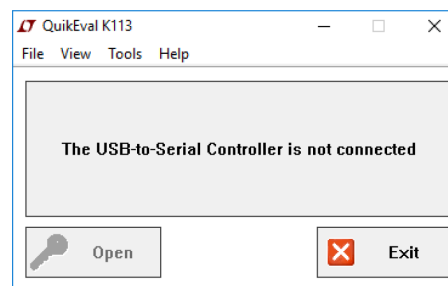
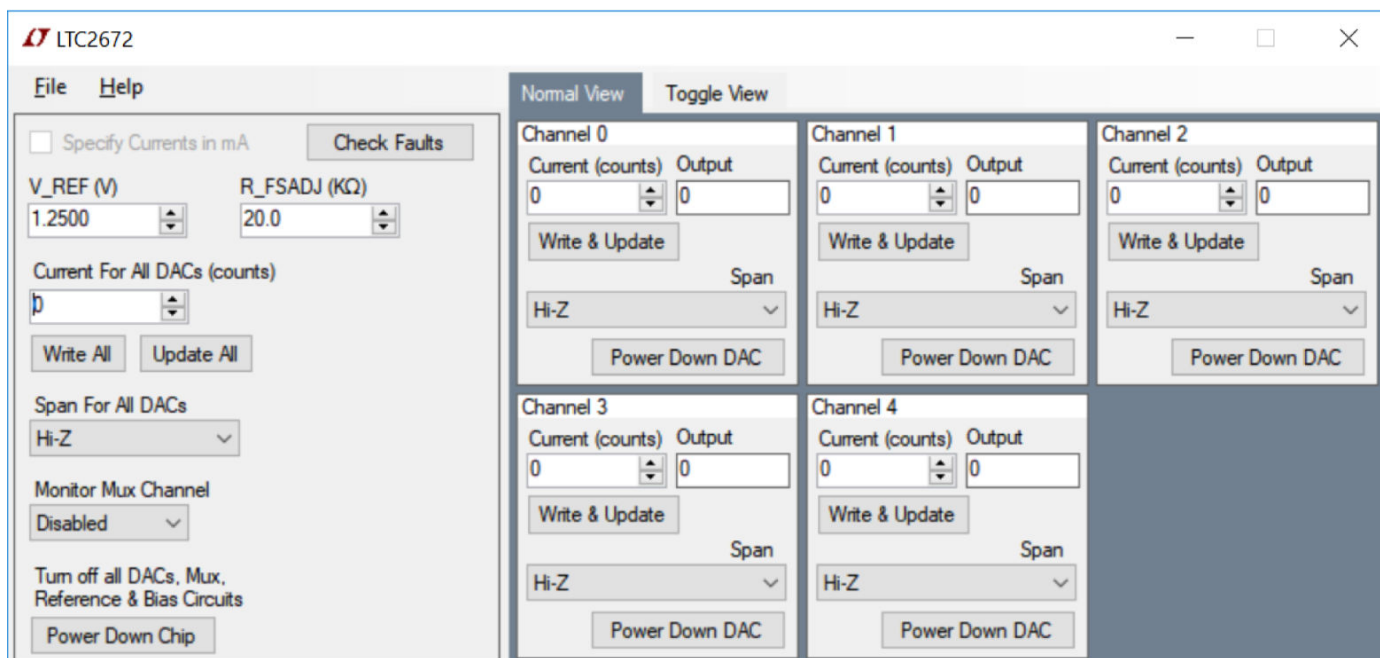

Figure 4. Select Interface Window
Figure 5. QuikEval Evaluation Software Main Window
To start the QuikEval evaluation software, from the **Start** menu, click **Analog Devices > QuikEval**. The software window opens (see Figure 4) until the software recognizes the DC2903A. When the software recognizes the DC2903A, the main software window in Figure 5 opens.
In the main QuikEval evaluation software window (see Figure 5), each channel can be written to individually or all channels can be written to at once as a group. Various settings for the LTC2672 are available in this window, including the range, reference voltage, toggle options, and full-scale adjustment resistor (R_FSADJ) settings. The fault register is read and displayed after every data transfer.
The DC2903A uses the LTC2672 internal 20 kΩ resistor to set the full-scale range. If a different resistor is manually populated on R4 of the DC2903A, the resistor value can be changed in the R_FSADJ (KΩ) text box (see Figure 5).
Similarly, if a different external reference voltage is used, the resistor value can be changed in the V_REF (V) text box (see Figure 5).
To set the output range for all LTC2672 channels at once, use the Span For All DACs dropdown menu. To set the output range for individual LTC2672 channels, use the Span dropdown menu for each individual channel (see Figure 5).
To set the output current for all LTC2672 channels at once, use the Current For All DACs (counts) text box. To set the output current for individual LTC2672 channels, use the Current (counts) text box for each individual channel (see Figure 5).